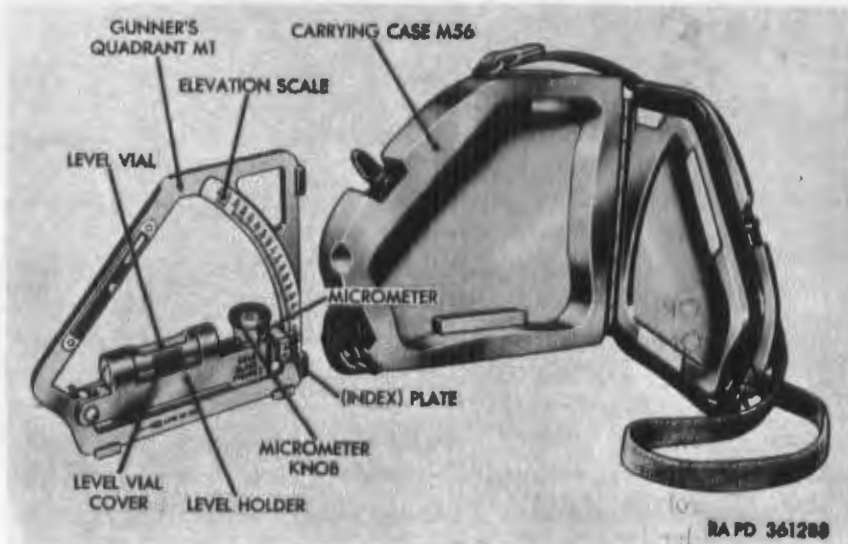
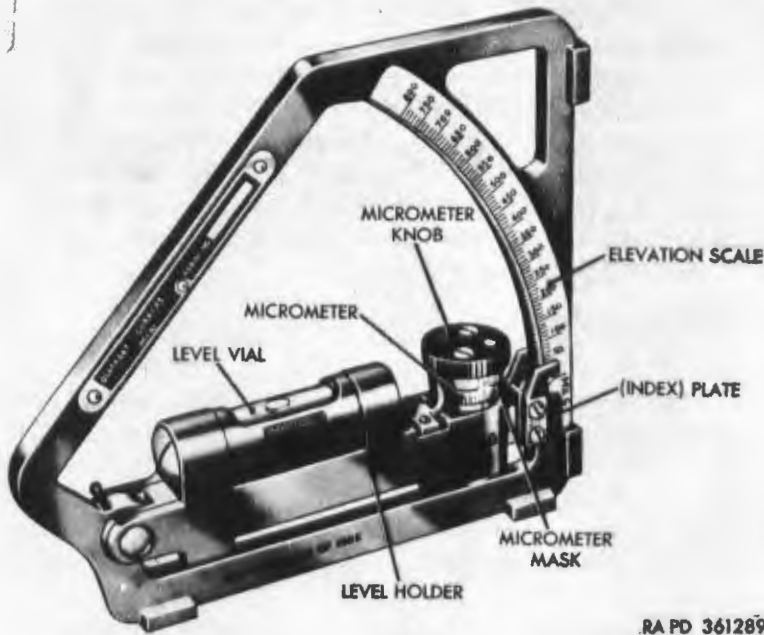
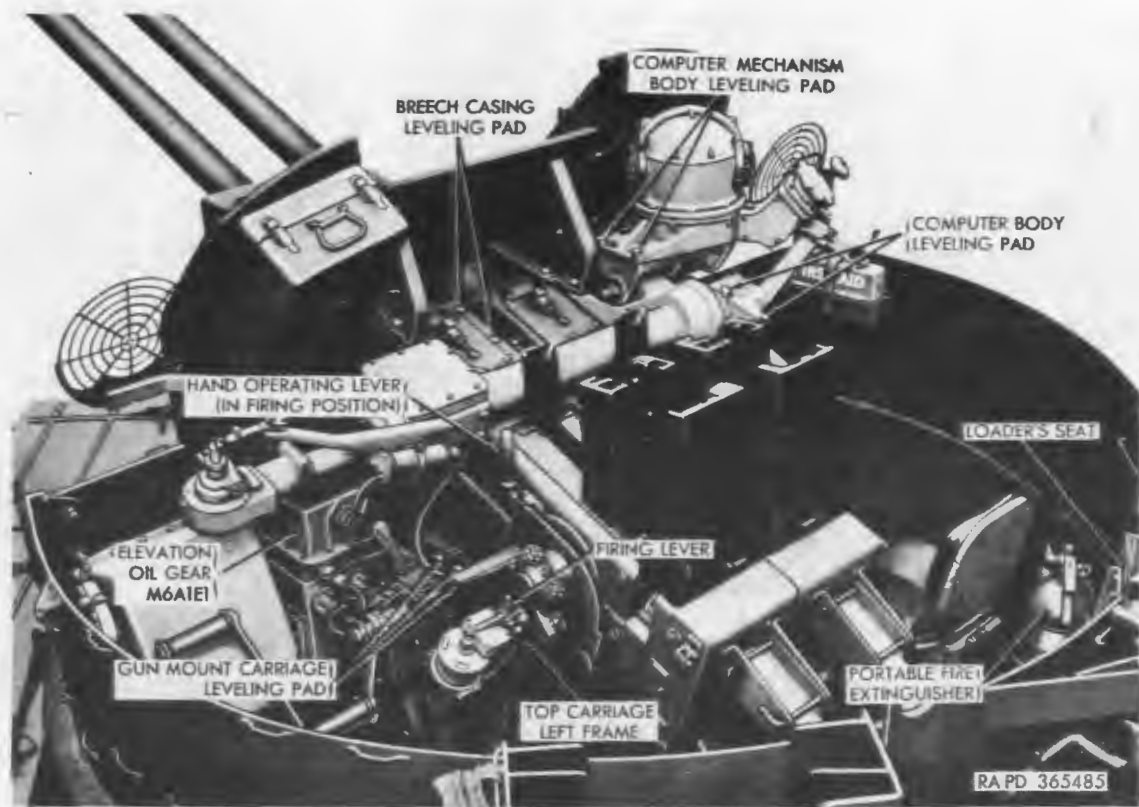
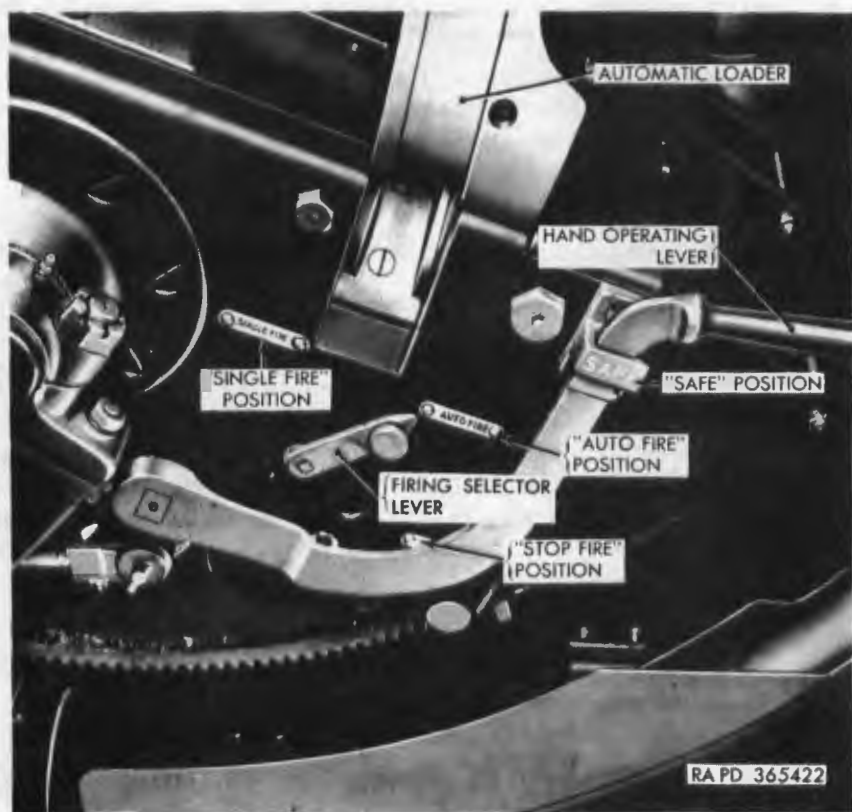

Figure 43. Gunner's quadrant M1.
Figure 44. Gunner's quadrant M1A1.
Figure 48. Location of gun mount leveling pads.
Figure 50. Hand operating lever—safe position.
- (2) *Gunner's quadrant M1 (fig. 43).* The gunner's quadrant M1 consists of a level holder with an (index) plate, an elevation scale, micrometer, and a level vial. The elevation angle is read as the sum of the elevation scale and micrometer readings when the level bubble on the level holder is centered. A plunger in the level holder, when pressed into the holder, permits rapid setting of coarse steps, and the micrometer permits fine adjustments. Two elevation scales, one on each side of the quadrant, are graduated in 10-mil increments and numbered every 50 mils. One scale reads from 0 to 800 mils, and the other from 800 to 1,600 mils. The micrometer has two scales which are graduated in 0.2-mil increments from 0 to 10 and numbered every mil.
- (3) *Gunner's quadrant M1A1* (fig. 44). The gunner's quadrant M1A1 is essentially the same as the gunner's quadrant M1 ((2) above) with the exception of the micrometer and the addition of the micrometer mask. The micrometer on gunner's quadrant M1A1 has the figures in black covered with a mask to eliminate errors in reading the micrometer.
- (1) Place vehicle on as level terrain as possible.
- (2) Set dual gun at zero degrees in elevation.
- (3) Place gunner's quadrant M1 (fig. 43) or M1A1 (fig. 44) on gun mount carriage leveling pads (fig. 48) parallel to the dual gun with the line of fire arrow pointing toward the gun muzzle.
- (4) Adjust the gunner's quadrant M1 or M1A1 until the bubble in the level vial is centered. Observe the quadrant reading for future use.
- (5) Place gunner's quadrant on breech casing leveling pads. Manually elevate or depress the dual gun until quadrant reading is the same as reading obtained in (4) above.
- (6) Place gunner's quadrant on computer body leveling pads (fig. 48) and check level of computer body. This quadrant reading must be within ± 2 mils of quadrant reading obtained in (5) above. If reading is not within the prescribed limits, drag link rod (fig. 24) must be adjusted.
Hold gunner's quadrant on computer body leveling pads (fig. 48) and turn drag link rod until the quadrant setting is the same as the setting obtained in (4) and (5) above.
- (9) The gunner's quadrant should read level within ± 2 mils when placed on the gun mount carriage leveling pads (fig. 48), breech casing leveling pads, and the computer body leveling pads; if not, repeat (1) through (8) above.
- (10) Manually elevate dual gun to 45° and check level of computer body. This reading must be level within ± 2 mils.
- (11) Fully elevate dual gun and check level of computer body. From 45° to full elevation, this reading must be level within ± 4 mils.
- (3) Place gunner's quadrant M1 (fig. 43) or M1A1 (fig. 44) on computer body leveling pads (fig. 48). If reading is not level within ± 1 mil, the vertical slide joint stem must be adjusted ((4) and (5) below).
- (1) Pull the hand operating lever (fig. 50) of the left gun back as far as possible and fasten in this position while another man performs the operations outlined in (2) and (3) below.
- (2) Open top cover of left gun (par. 279b (4)).
- (3) Insert breech boresight M17 into chamber of left gun. Position boresight so the peep hole is up and press into place. Carefully move hand operating lever to SAFE position (fig. 50).
- (9) Remove muzzle boresight and stow in carrying case. To remove breech boresight, pull hand operating lever out of SAFE position (fig. 50) and back as far as it will move. Fasten lever back, reach into breech, and withdraw breech boresight. Move hand operating lever to firing position (fig. 48) after breech has been completely cleared.
- (10) Close top cover of left gun (par. 279d(1)).
- (11) Remove and stow reflex sight M24C in sight accessory chest (par. 62c(2)).
- (5) Elevate or depress the dual gun until the desired elevation angle is set on the gunner's quadrant M1 or M1A1, using the leveling pads on the breech casing (fig. 48).